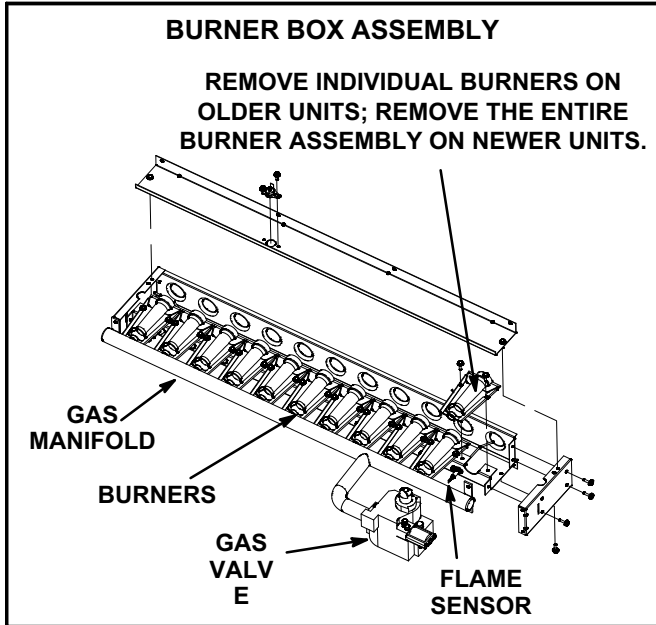

FIGURE 21
- 3- Remove screws securing burners to burner support and lift the individual burners or entire burner assembly from the orifices. See figure 21. Clean as necessary.